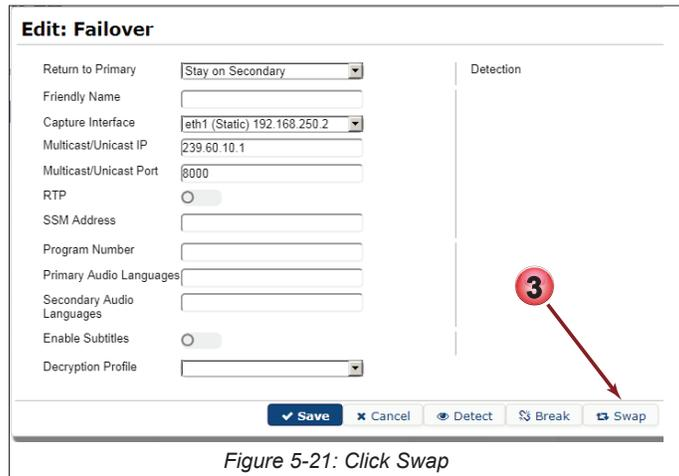

Figure 5-21: Click Swap
3. Click **Swap**, Figure 5-21.